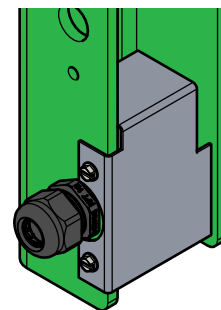

Figure 9. Strain Relief and Cover
13. Install the cover plate with two 8-32 screws (Figure 9).